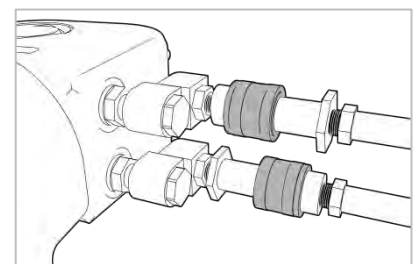

FIGURE 4 – Tight Hose Seal
2. Ensure the hoses are fully connected to both the tool and the pump. The connections should form a tight seal, see FIGURE 4.